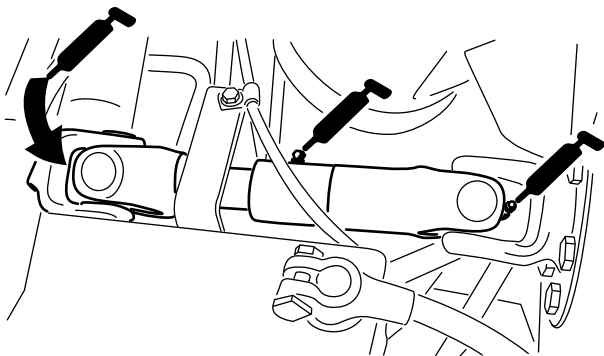

Figure 46
- Pump the driveshaft U-joint (3) (Figure 46)